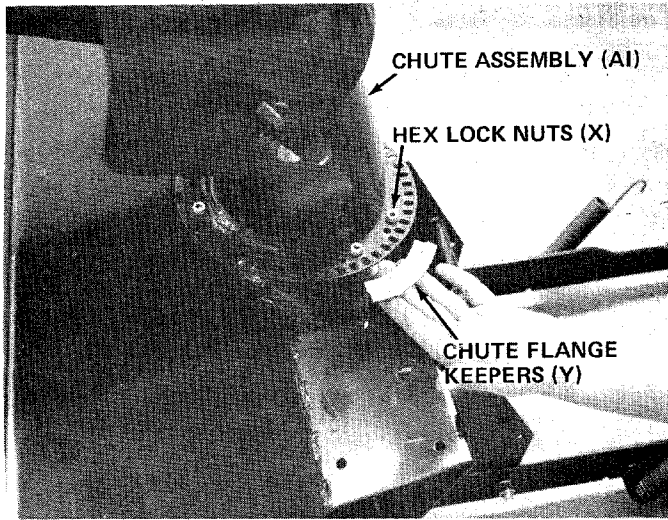

FIGURE 7
Before setting the chute assembly on the spiral housing assembly, grease the housing for ease of operation. See figure 7.
7. Assemble the chute assembly (A1) to the housing using three chute flange keepers (Y) and six hex lock nuts (X). See figure 7.